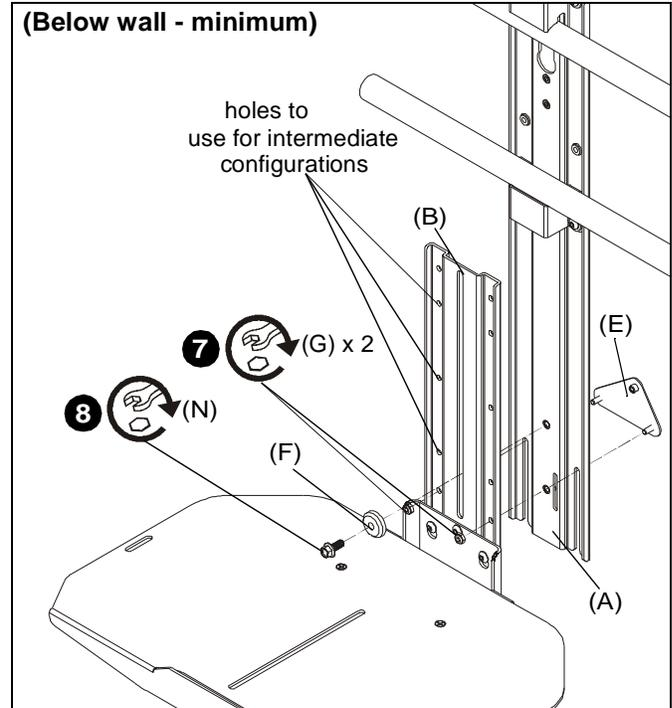

**Figure 5**
- (For **maximum extension**) Use #10-32 x 3/8" button head cap screw (P) and small washer (J) to secure adapter plate (E) to main bracket (B). (See Figure 5)
- (For **maximum extension**) Use two #10-24 lock nuts (G) to secure upright bracket (A) to main bracket (B) and adapter plate (E). (See Figure 5)